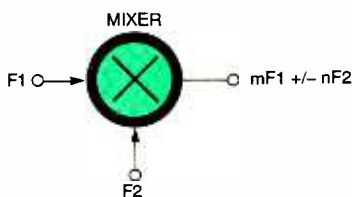

Fig. 3. In a basic mixer circuit, the sum ($F_1 + F_2$) and difference ($F_1 - F_2$) of two input frequencies appear at the output.
Frequency Translation. The process of frequency translation or conversion is called heterodyning. When two frequencies (F_1 and F_2 in Fig. 3) are mixed together in a nonlinear circuit, a collection of different frequencies will appear at the output. Those frequencies are characterized as $mF_1 + /-nF_2$, where n and m are integers or zero (0, 1, 2, 3...). For the sake of simplicity, we normally consider only the cases where m and n are either 0 or 1, so the output frequencies are F_1 , F_2 , $F_1 - F_2$ (difference), and $F_1 + F_2$ (sum). To make a superheterodyne receiver (the most common modern form), select either the sum ($F_1 + F_2$) or difference ($F_1 - F_2$) frequency as the receiver's intermediate frequency (IF). The NE602 contains a double-balanced mixer, so when it is properly impedance matched, it suppresses the two input frequencies (F_1 and F_2) at the output, and only produces the sum and difference frequencies.